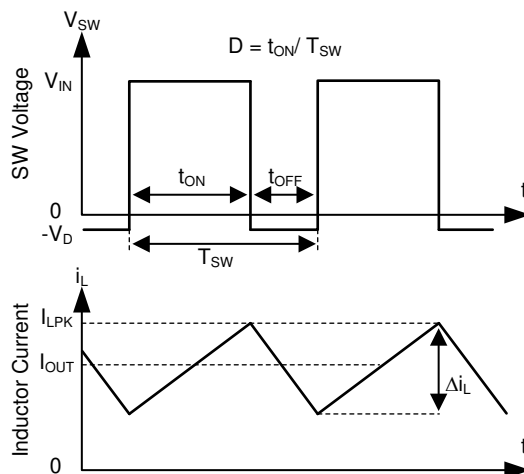

图 10-1. SW Node and Inductor Current Waveforms in Continuous Conduction Mode (CCM)
The following operating description of the TPS2584x-Q1 refers to the Functional Block Diagram and the waveforms in Figure 10-1. TPS2584x-Q1 is a step-down synchronous buck regulator with integrated high-side (HS) and low-side (LS) switches (synchronous rectifier). The TPS2584x-Q1 supplies a regulated output voltage by turning on the HS and LS NMOS switches with controlled duty cycle. During high-side switch ON time, the SW pin voltage swings up to approximately V_{IN} , and the inductor current i_L increase with linear slope $(V_{IN} - V_{OUT}) / L$. When the HS switch is turned off by the control logic, the LS switch is turned on after an anti-shoot-through dead time. Inductor current discharges through the LS switch with a slope of $-V_{OUT} / L$. The control parameter of a buck converter is defined as Duty Cycle $D = t_{ON} / T_{SW}$, where t_{ON} is the high-side switch ON time and T_{SW} is the switching period. The regulator control loop maintains a constant output voltage by adjusting the duty cycle D . In an ideal buck converter, where losses are ignored, D is proportional to the output voltage and inversely proportional to the input voltage: $D = V_{OUT} / V_{IN}$.